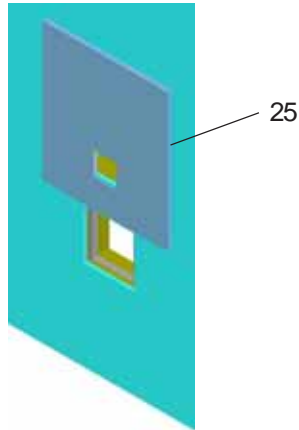

Figure 7 - EDFPBWM114C Panel Installation
3. **Install back panel.** Place the upper edge of the panel above mounting plate on the wall. Slide the panel down until it engages the mounting plate. Be sure back panel is firmly engaged before releasing it. (See Figure 7)